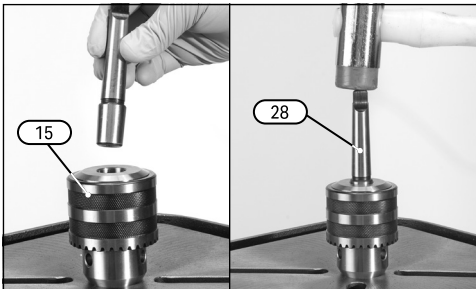

Fig. 7
- Screw the plunge handles (27) onto the hub and hand tighten.
6.5 Fitting Chuck and Arbor (Fig.7 - Fig.8)